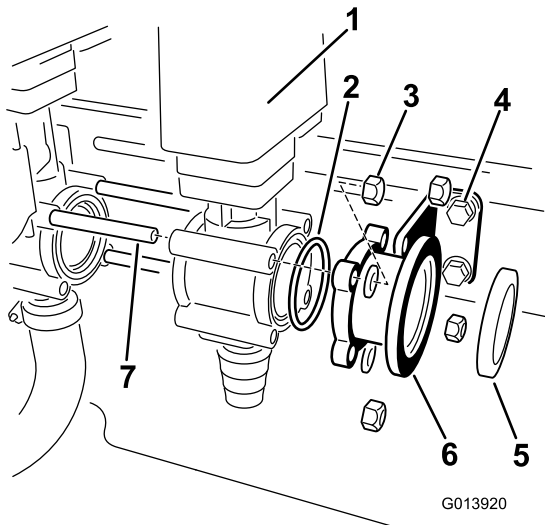

Figure 6
8. Install an O-ring from loose parts to the open side of the eductor valve (Figure 6).